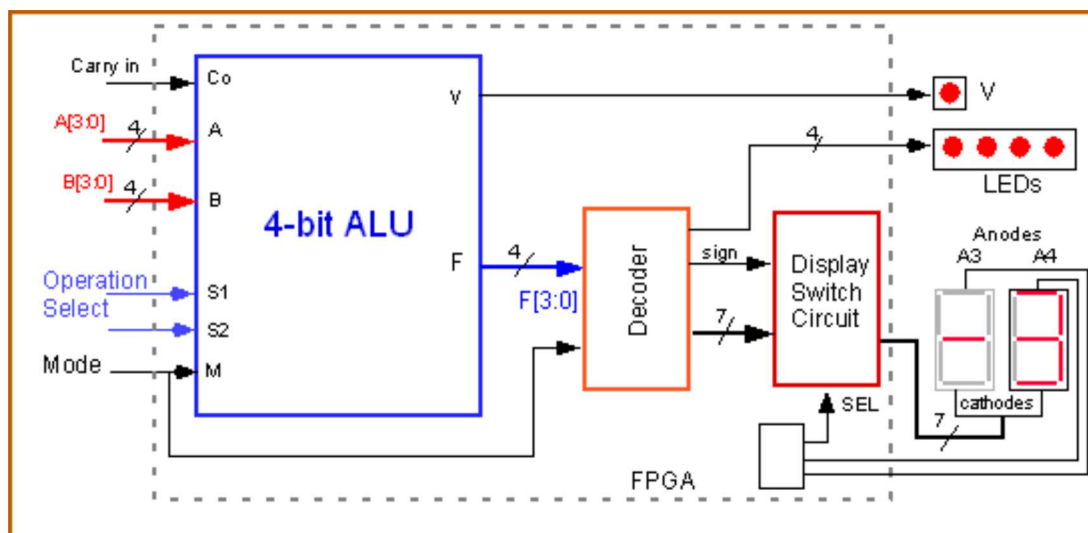

Figure 3: Overall system, including the 4-bit ALU and display units.
4. Figure 3 shows a schematic of the overall system, consisting of the ALU, Decoder and Switching circuit, and Displays on the Digilab board.